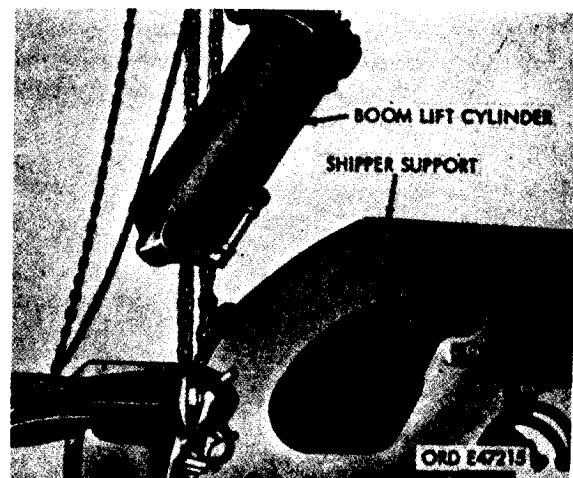

Figure 427. Removing boom lift cylinder
- (6) Using a chain hoist (fig. 427), lift the boom lift cylinder from shipper support, and remove from vehicle.
- (1) Using a chain hoist (fig. 427), lift the boom lift cylinder into position between the sides of the shipper support.